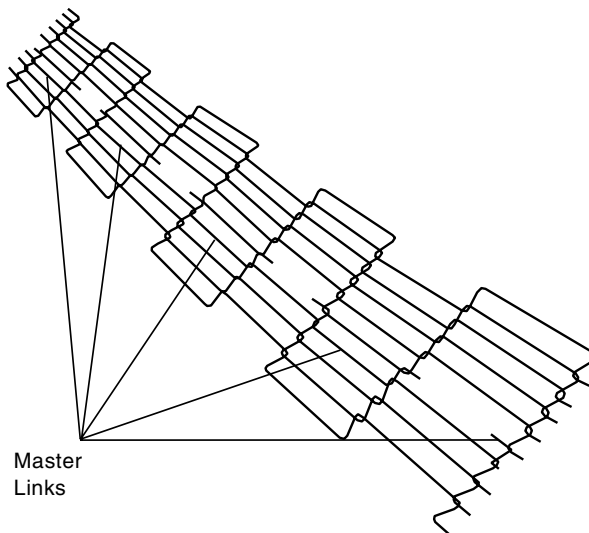

Figure 4-27.
1. Using long nose pliers, an entire link can be removed with the conveyor assembly either in or out of the oven. Position master links at end of conveyor as shown in Figure 4-27.